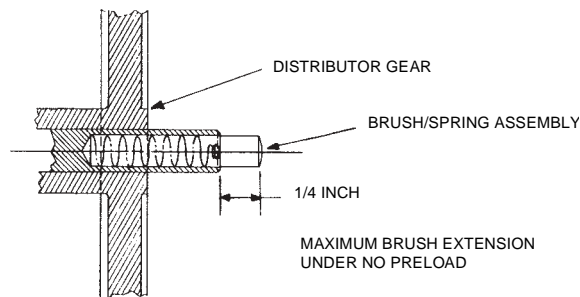

Figure 7.12
2. Gently press the carbon brush and spring assembly into the shaft until the spring seats on the bottom of the shaft. The top of the carbon brush should protrude from the top of the shaft approximately 1/4 inch. (See Figure 7.12.)